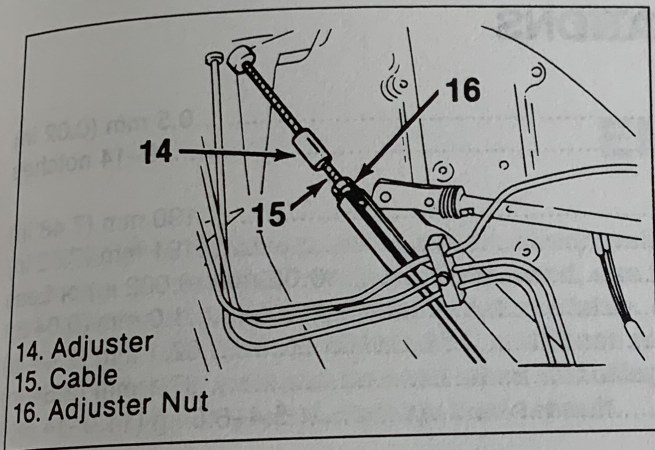
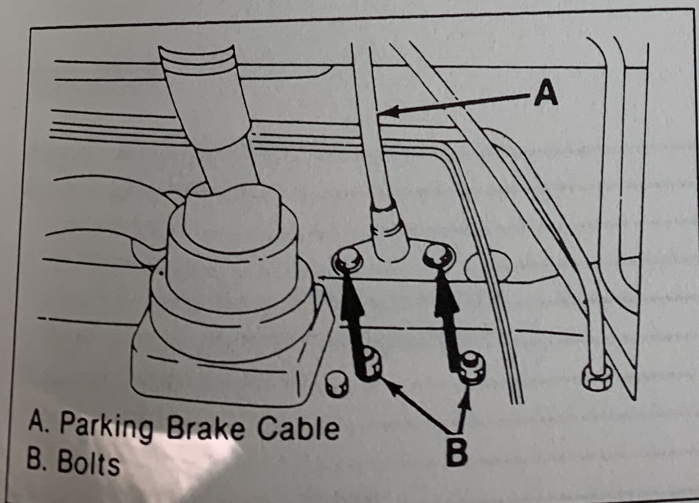

Figure 5. Disconnecting Cable
Figure 6. Cable Removal
1. Loosen the adjuster nut (16) and disconnect the cable (15) by turning the adjuster (14) (figure 5). Loosen and remove the bolts holding the cable to the floor and pull out the cable (figure 6).
2. Parking brake lever (2).
3. Parking brake cable (1) from support plate (3).
4. Flange yoke (3).
5. Drum (4).
6. Hold-down springs (5).
7. Return springs (6).
8. Adjuster assembly (7).
9. Adjuster spring (8).
4. Hold-down springs (5).
5. Strut (12).
6. Return springs (6).
7. Adjuster spring (8).
9. Drum (4).
10. Flange yoke (3).
11. Parking brake cable (1) to support plate (13).
12. Parking brake lever (2).
- Bolts to hold cable to floor (figure 6).
14. Cable in adjuster (figure 5).